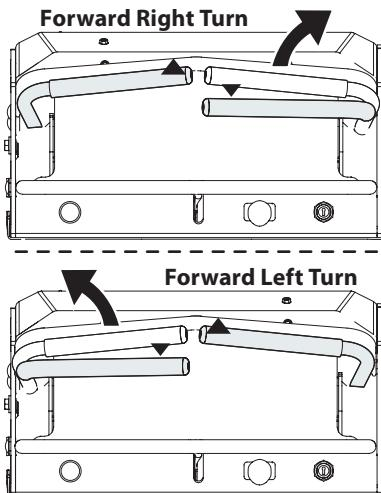

Figure 11
1. To turn to the right, move the right drive control lever rearward of the left lever. See Figure 11.
2. To turn to the left, move the left drive control lever rearward of the right drive control lever. See Figure 11.